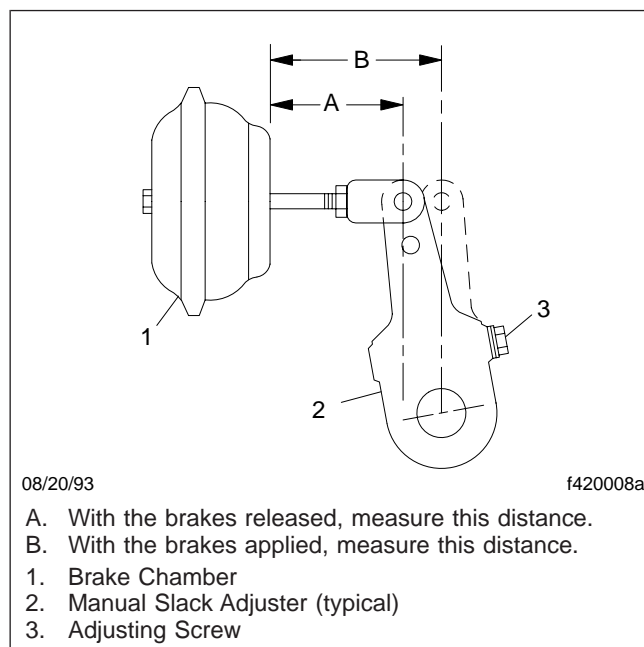

Fig. 1, Measuring Brake Adjustment
- 1.1 With the brakes released, measure the distance from the face of the air chamber to the centerline of the clevis pin (Fig. 1, Ref. A). Record the exact distance as measurement A.
- 1.2 Apply the service brakes and hold them on full line pressure of at least 80 psi (550 kPa). Measure the distance from the face of the brake chamber to the centerline of the clevis pin (Fig. 1, Ref. B). Record the exact distance as measurement B.
- 2.1 Wipe clean the adjusting screw hexhead. See Fig. 1. Place a wrench or socket over the adjusting screw hexhead.
- 1.1 With the brakes released, measure the distance from the face of the air chamber to the centerline of the clevis pin (**Fig. 1**, Ref. A). Record the exact distance as measurement A. To be allowable, measurement A must be within this range: 2-9/16 to 2-11/16 inches (65 to 68 mm).
- 1.2 Apply the service brakes and hold them on full line pressure of at least 80 psi (550 kPa). Measure the distance from the face of the brake chamber to the centerline of the clevis pin (**Fig. 1**, Ref. B). Record the exact distance as measurement B.
- 2.1 With the brakes released, measure the distance from the face of the air chamber to the centerline of the clevis pin (**Fig. 1**, Ref. A). Record the exact distance as measurement A.
- 3.1 Wipe clean the adjusting screw hexhead. See **Fig. 1**. Position a wrench or socket over the adjusting screw hexhead.